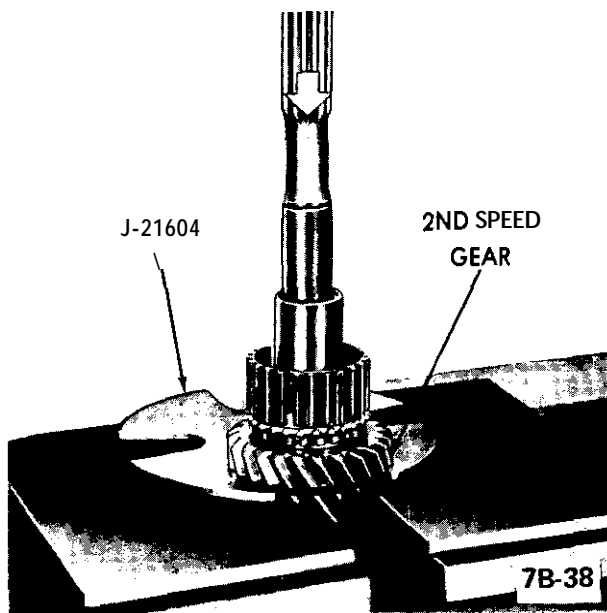

Figure 7B-38 Pressing Off Large Clutch Hub and Needle Bearing Inner Sleeve
8. With Special Tool J-21684, Press Plate, located below **second** speed gear, press out gear shifter sleeve carrier. See Figure 7B-39.